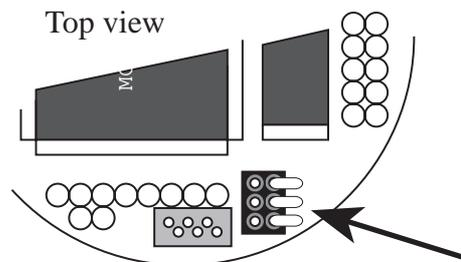

Figure 19: Settings of the jumpers for the demo mode.
- Insert all jumpers like in figure 19 (setting for the running mode 0, see “Jumpers, reset button and settings” on page 5).